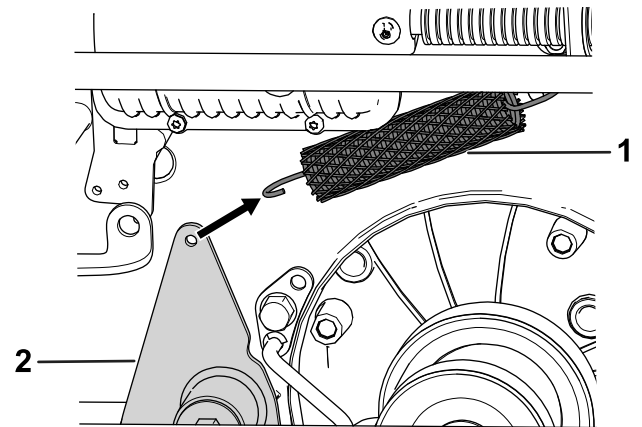

Figure 3
8. Remove the brake-extension spring from the brake arm (Figure 3).